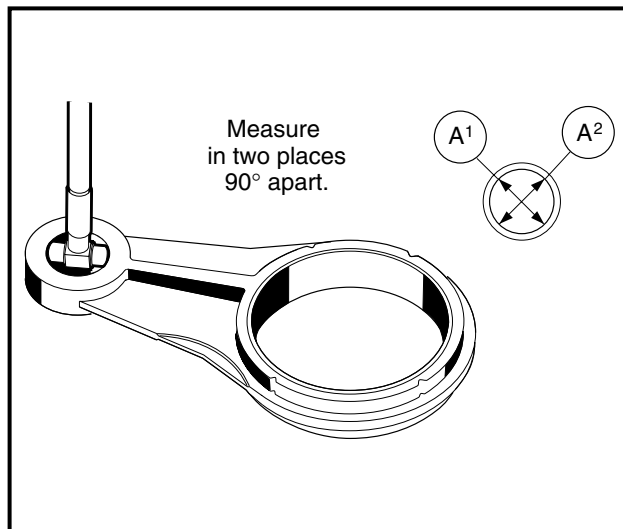

Figure 2-72 Measure I.D. of Small Bore
- 1.2. If the inside diameter of the small end is greater than 0.4746 inch (12.057 mm), replace the link rod (**Figure 2-72, Page 2-33**).